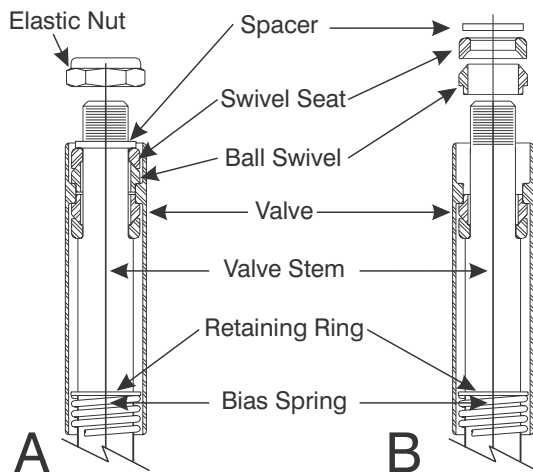

Figure 8-17. Remove Upper Ball Swivel and Seat, and Valve from Valve Stem.
3. Thread the Elastic Nut (3) from the Valve Stem (11). Discard the Elastic Nut (3). See Figure 8-17-A.
4. Remove the Spacer (4), Ball Swivel (6) and Swivel Seat (5) from the Valve Stem (11) as shown in Figure 8-17-B.